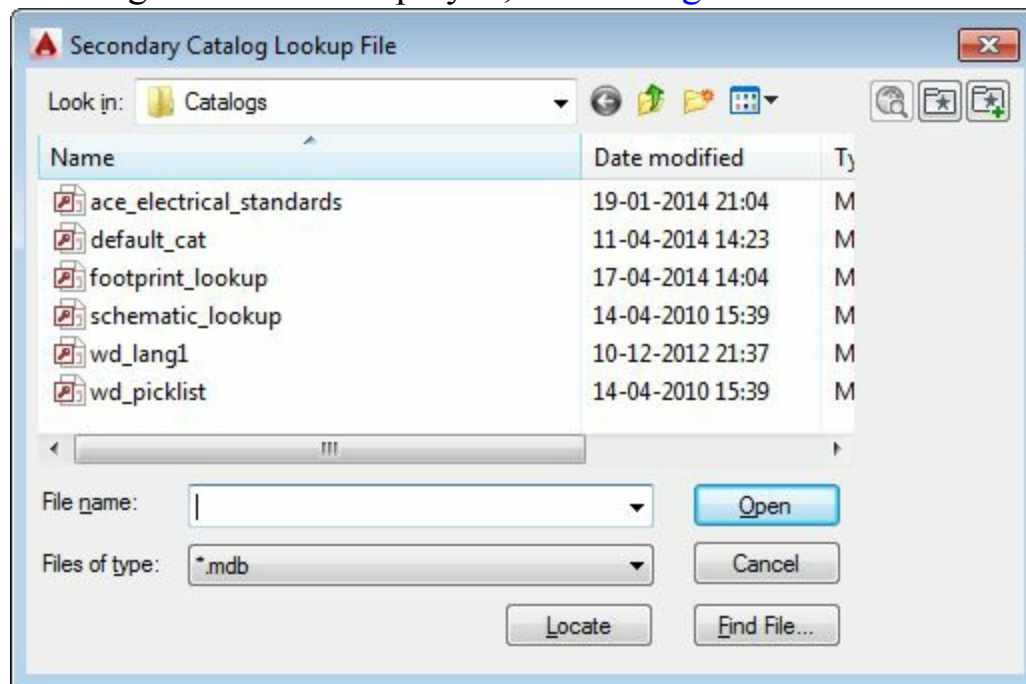

Figure-12. Secondary Catalog Lookup File dialog box
- By default system uses the default Lookup file available with the library. But if you need additional file for look up then click on the **Optional : Define a secondary catalog lookup file for this project** radio button and then click on the **Browse** button. The **Secondary Catalog Lookup File** dialog box will be displayed; refer to Figure-12.